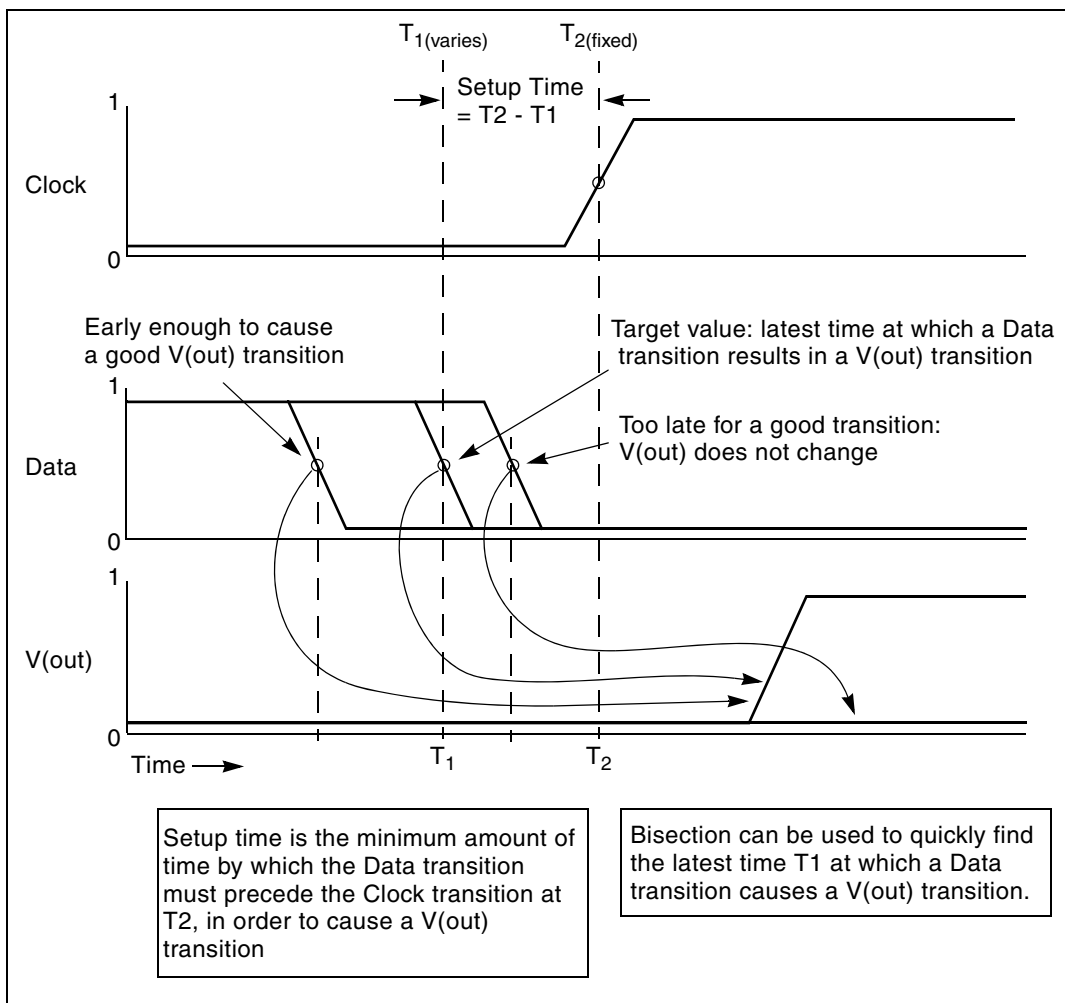

Figure 87 Determining Setup Time with Bisection Violation Analysis
Figure 87 on page 497 shows a typical analysis of setup-time constraints. Clock and data input waveforms drive a cell. Two input transitions (rise and fall) occur at times T_1 and T_2 . The result is an output transition, when $V(\text{out})$ changes from low to high. The following relationship between the T_1 (data) and T_2 (clock) times must be true for the $V(\text{out})$ transition to occur: $T_2 > (T_1 + \text{setup time})$.
- Automatically varying the input parameter (T_1 in Figure 87 on page 497) to find the value for which the transition barely occurs.
Figure 88 on page 504 shows an example of the binary search process that the bisection algorithm uses. This example is the pass/fail type, and is appropriate for a setup-time analysis that tests for the presence of an output transition. In the example depicted in Figure 87 on page 497 note that:
4. The bisection algorithm performs tests for each specified boundary value to determine the direction in which to pursue the target value, after the first bisection. In this example shown in Figure 87 on page 497, the upper boundary has a pass value and the lower boundary has a fail value.